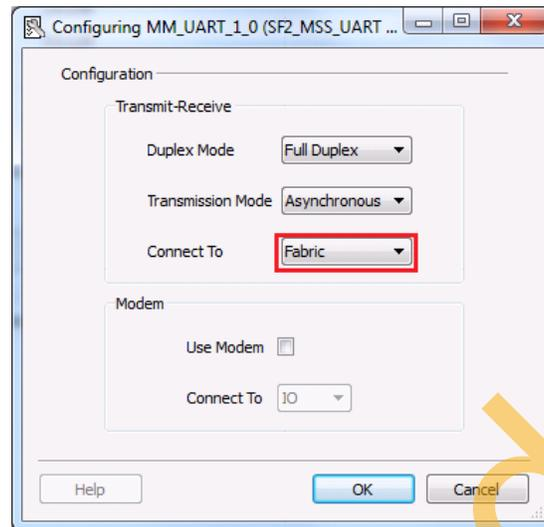

Figure 9 • Configuring MM_UART_1
- In the MM_UART_1 configurator window, select **Fabric** from the **Connect To** drop-down list, as shown in Figure 9.